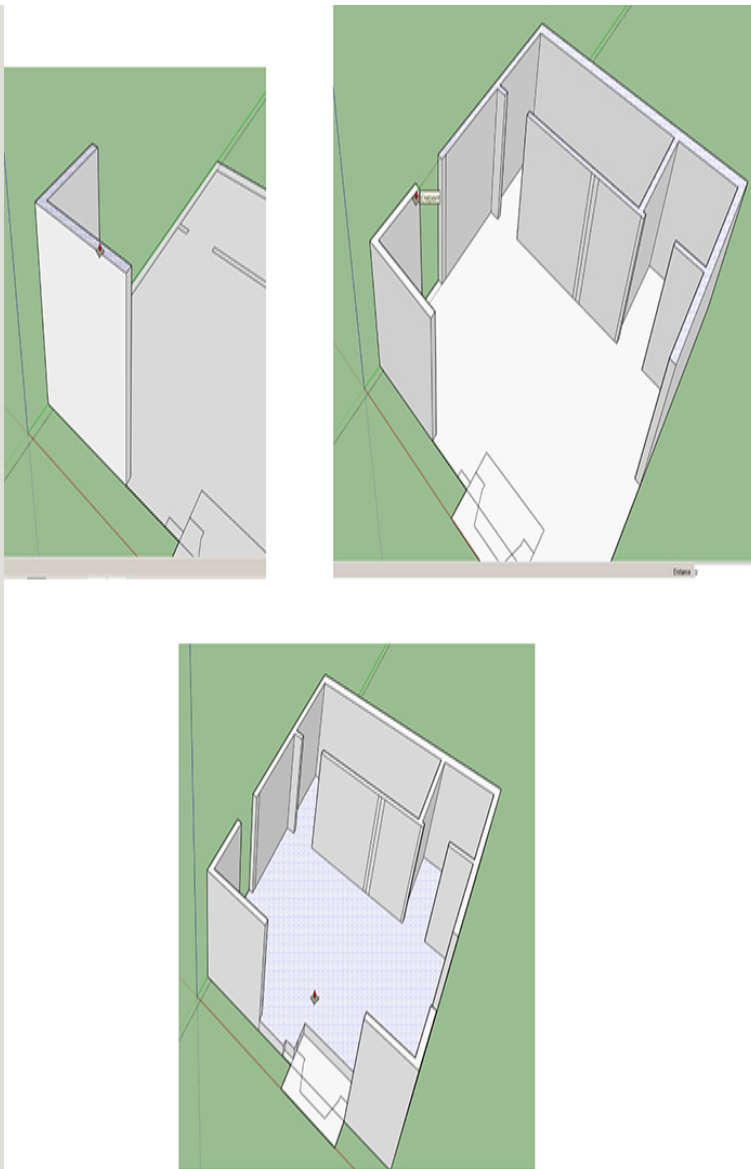

Figure 4-74 Model the walls by pushing/pulling the first section up and inference matching the rest to it. Then do the same to the floors.
4. Model the walls and floors (Figure 4-74). Push/pull one of the wall sections up, type **9'**, and press ENTER. Then inference match the rest of the walls to that section by pushing/pulling them up, hovering the cursor over the first section, and releasing it. Push/pull up the floor in one room 6" and inference-match the other floors to it.